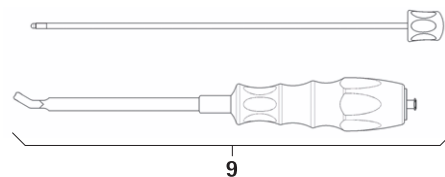

Fig. 5
- Dismantle rod insertion instrument 9, see Fig. 5: Unscrew the inner part.